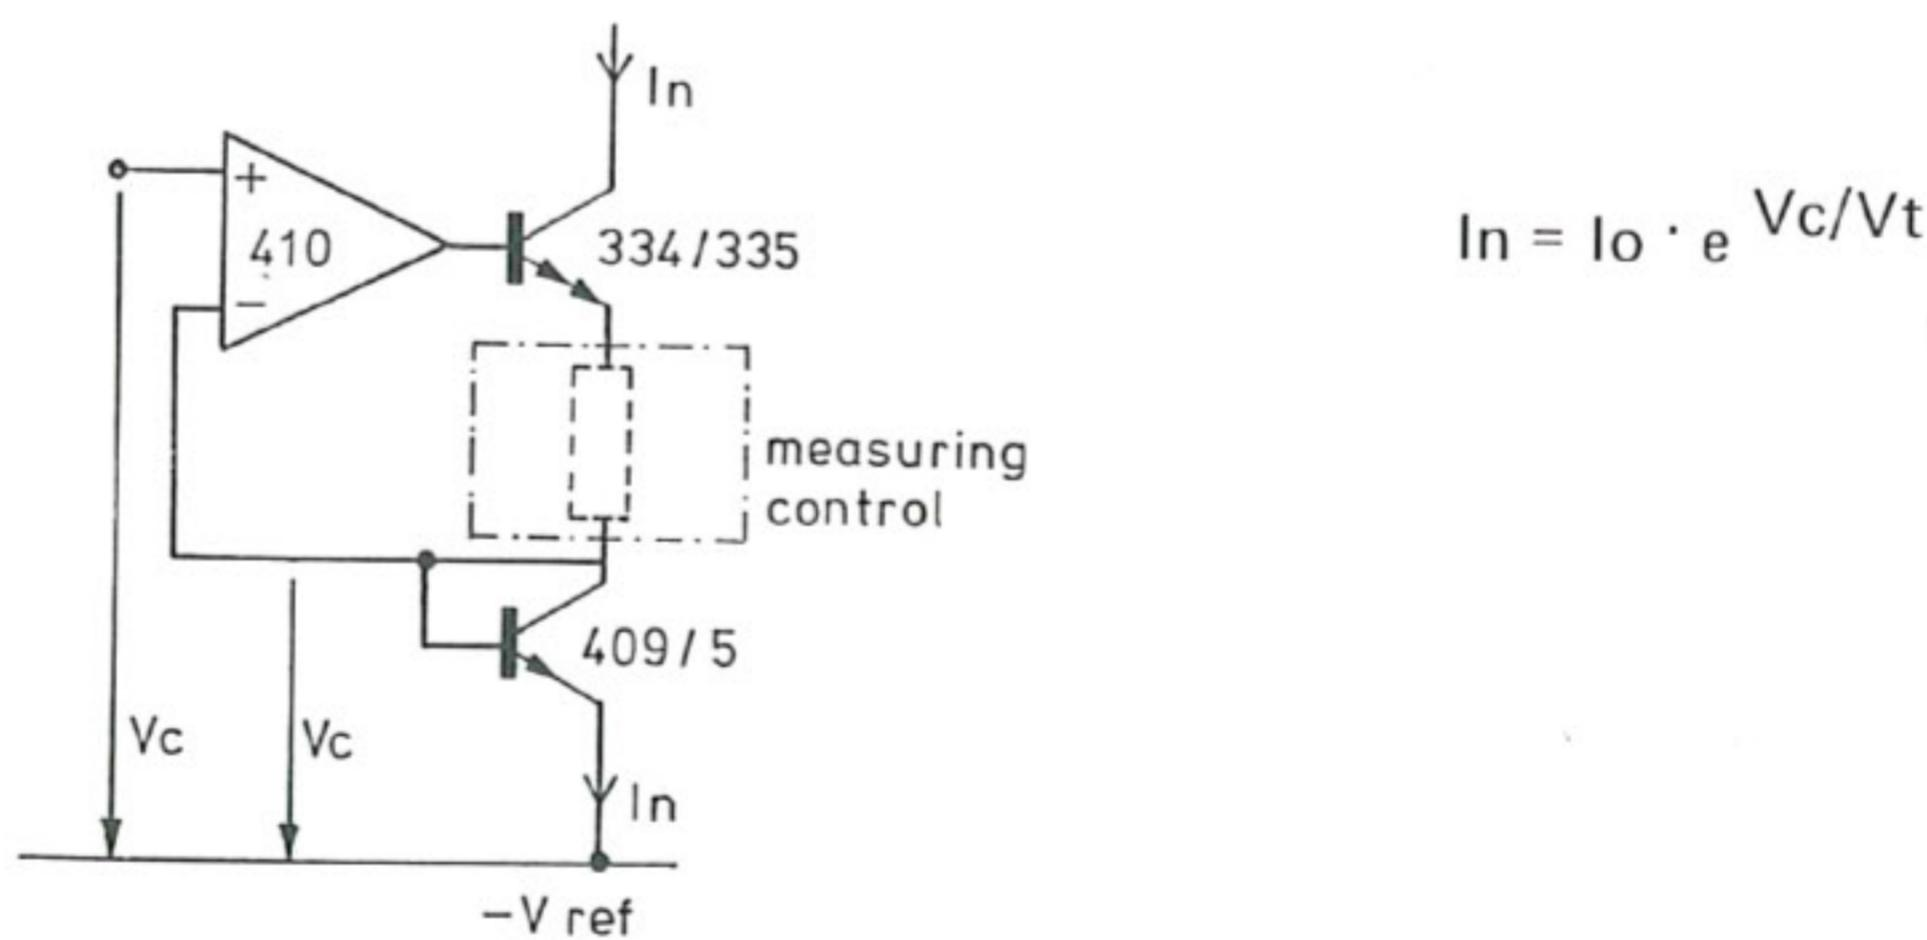

Fig. 4.1 - 3 Principle of logarithmic converter
4.1.3. Main generator, see figs. 4.1 - 3 and 39